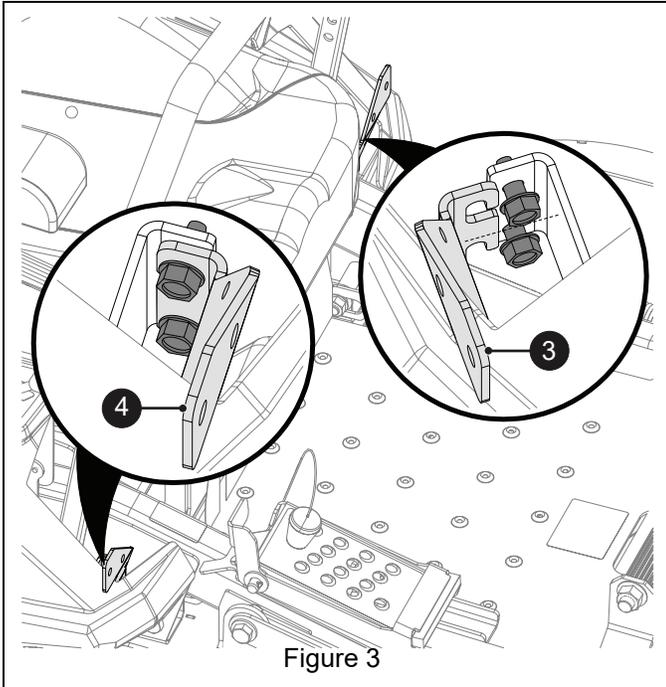

Figure 3
5. Position left headlight mounting bracket (item 3) and right headlight mounting bracket (item 4) behind pivot bracket screws and tighten screws. See Figure 3.